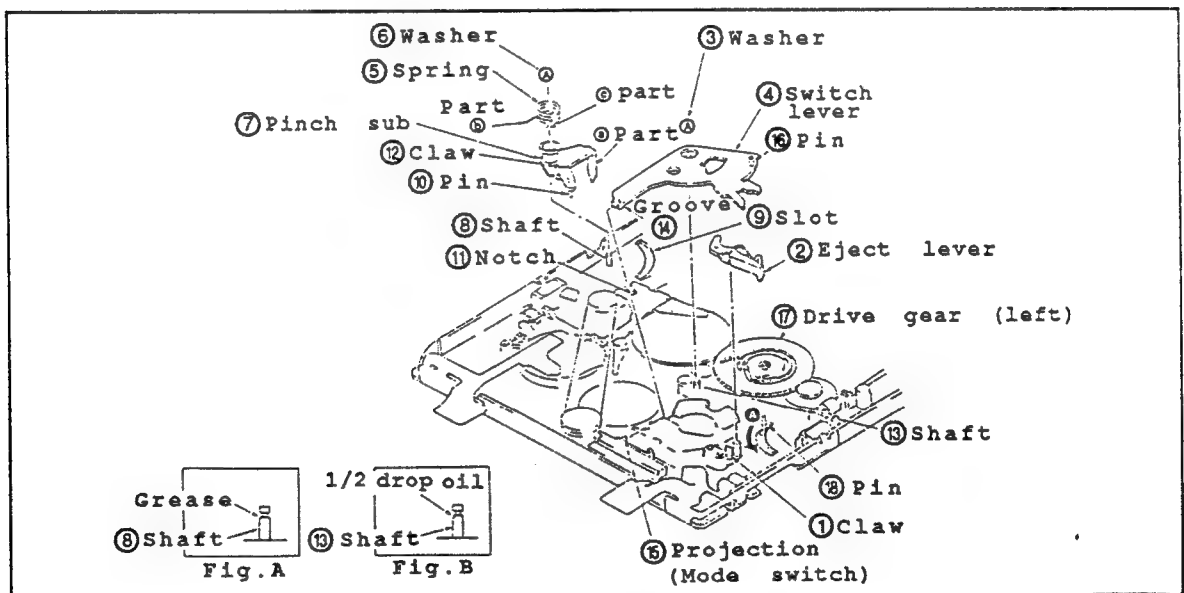

Fig.II-20
• Disassembling (Fig.II-20)
- (1) Set unloading state.
- (2) In the same procedures in "3-3", dismount the capstan motor.
- (3) To dismount the eject lever ②, unhook the claw ①.
- (4) To detach the switch lever ④, remove the washer ③.
- (5) Remove the spring ⑤.
- (6) To detach the pinch sub arm ⑦, remove the washer ⑥.
• Reassembling (Fig.II-20)
- (1) Apply the grease onto the shaft ⑧. (Fig.A)
- (2) Assemble the pinch sub arm ⑦ while inserting the ⑨ part into the slot ⑨.
- (3) Secure it with the washer ⑥.
- (4) Hook the ⑥ part of spring ⑤ between the claw ⑫ and the chassis side while hooking ③ part to the claw ⑫.
- (5) Apply 1/2 drop of oil to the shaft ⑬. (Fig.B)
- (6) Assemble the switch lever ④ to the shaft ⑬ while aligning the groove ⑭ with the projection ⑮ of mode switch. At this time, insert the pin ⑯ to the outside groove ⑰ of drive gear (left) ⑰.
- (7) Secure it with a washer ③.
- (8) Attach the eject lever ② and hook the claw ①.
- (9) In the same procedures in "3-3", mount the capstan motor.
*Note: When installing the switch lever ④ to the shaft ⑬, set the pin ⑯ of tension regulator arm to the inside of switch lever ④. (within the extent of ① indicated by an arrow.)